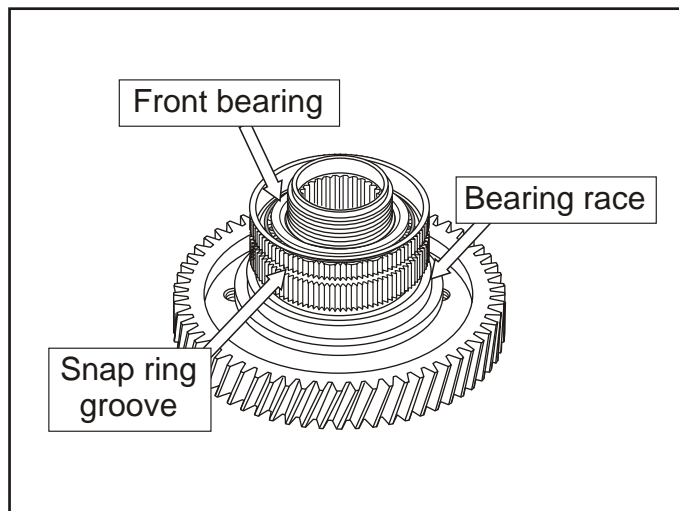

Figure 187
- 131. Remove the bearing race using a suitable two jaw puller. This will remove the front bearing along with the race. See Figure 187.